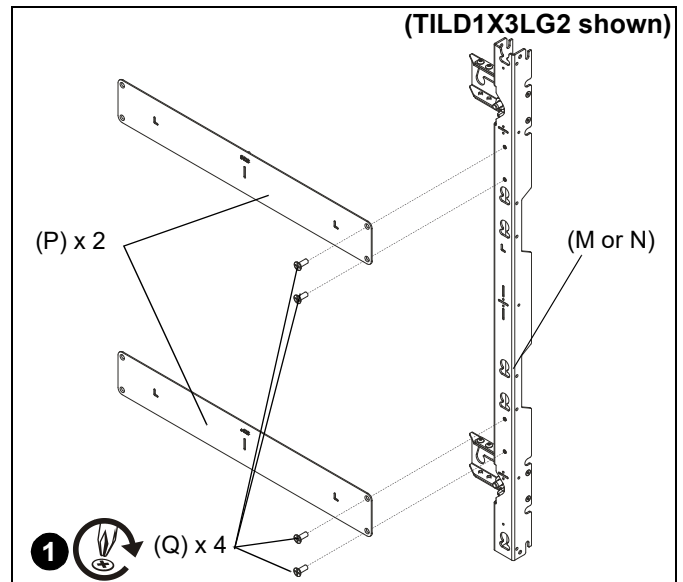

Figure 14
- Use four 10-24 x 1/2" flathead Phillips screws (Q) to secure two spacer plates (P) to mounting uprights (M or N). (See Figure 14)